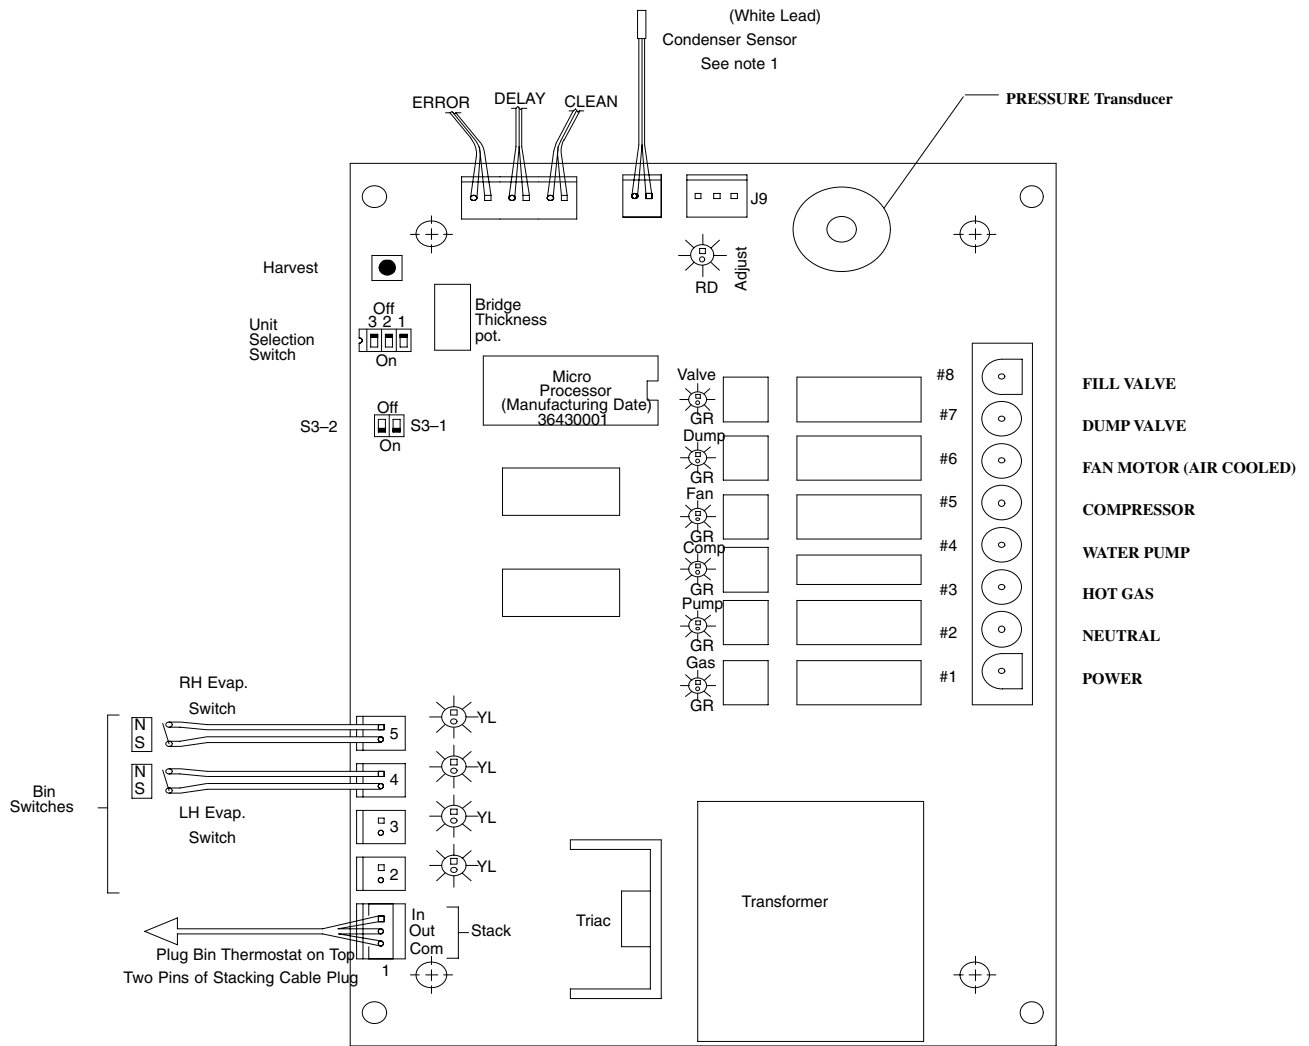

FIGURE 19
4. Connect the bin thermostat lead to the circuit board (see Figure 19).